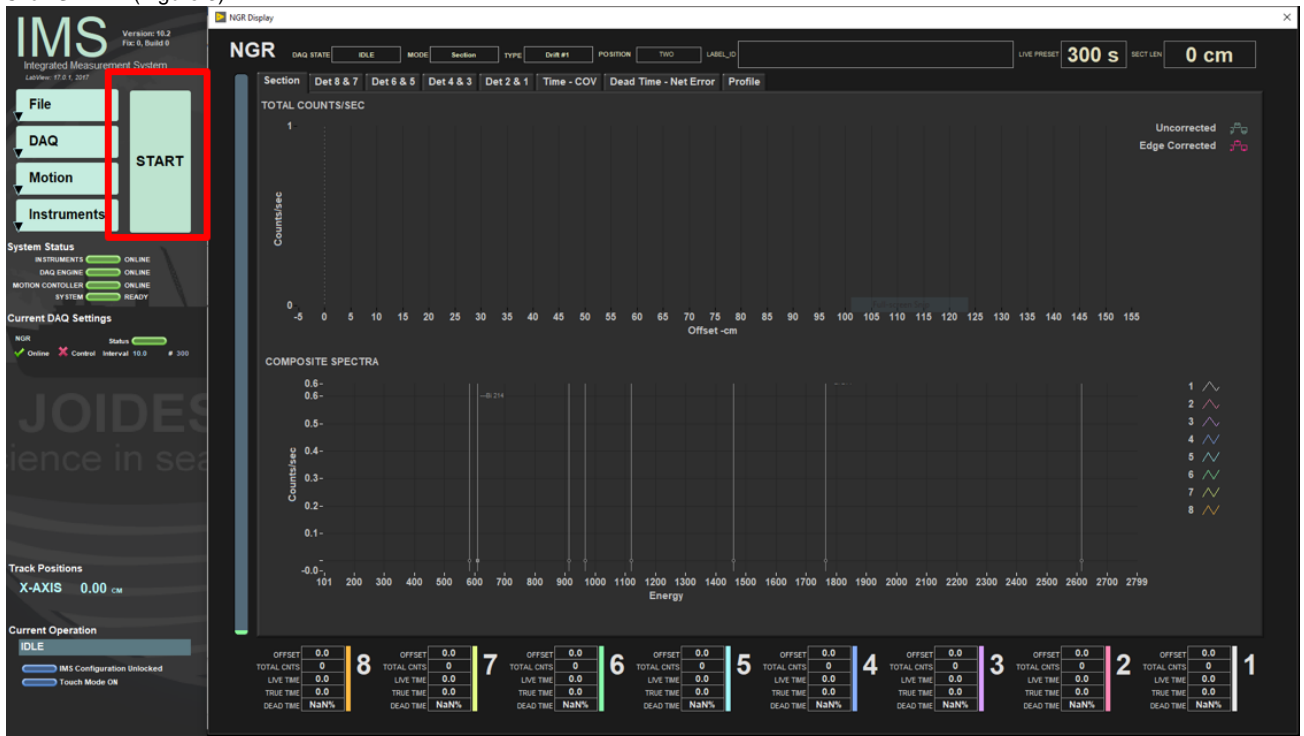

Figure 3: NGR Program Main Window. The 'Start' button is outlined in red.
3. Click **START** (Figure 3).